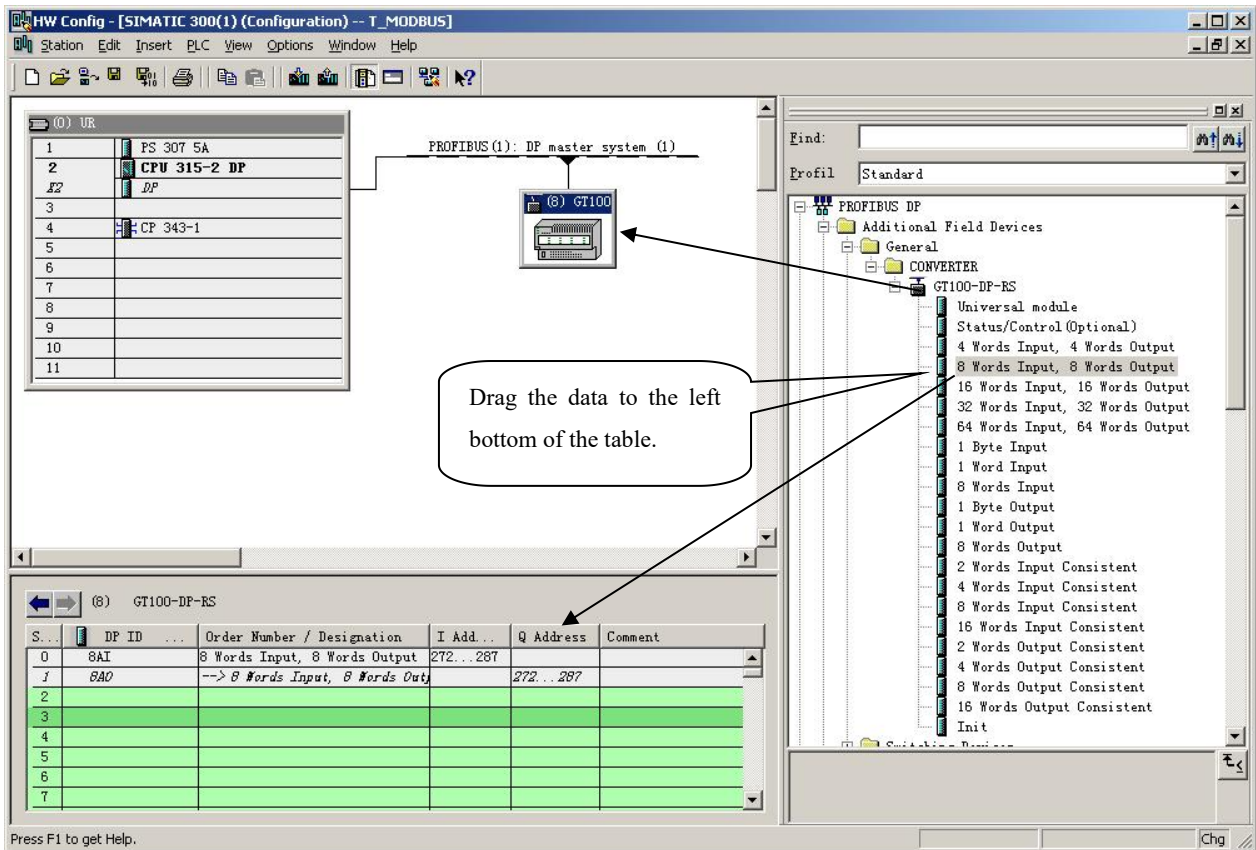

Figure 10
11. Configure GT100-DP-RS device station into PROFIBUS DP network, and map the input and output data block to S7-300 or other controller's memory, As Figure 10 shown: